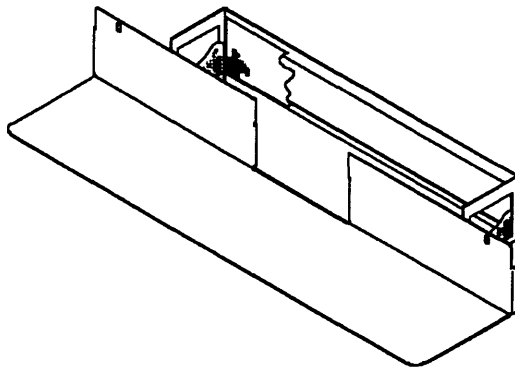

Figure 1-9. Rear Ground Plate Assembly P/N 03F4815. (Used if the floor is not raised.)
- Step 13. **_____ If the floor is not raised**, install the rear ground plate assembly P/N 03F4815 (see Figure 1-9). Turn the rear casters appropriately to give clearance, and slide the assembly from the rear of the machine. Secure with two screws P/N 1621210. Before securing the screws, push down on the plate to give it maximum contact with the floor.